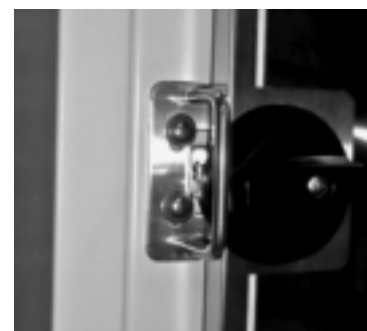

Figure 6-17. Inner Door Latch
1. Open the inner door and remove inner door latch from cabinet (Figure 6-17).